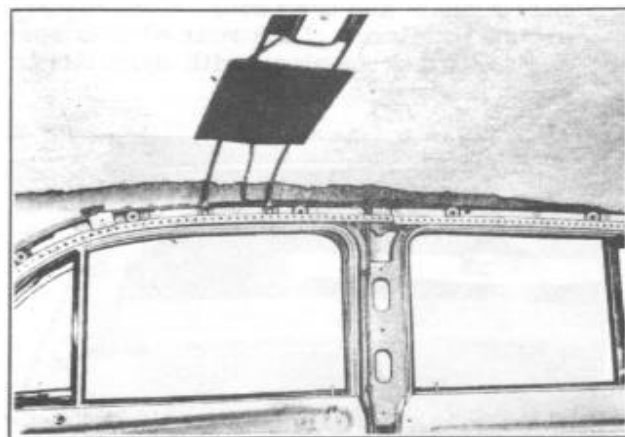

FIGURE 74
**NOTE: Before replacing headlining make sure roof panel insulation is securely glued and in the proper position and the retainer strips are aligned as shown in Figure 74.**